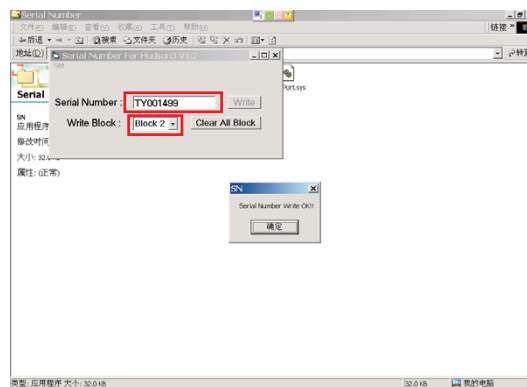

Fig.30
- 4. Set Block4 as shown in Fig.30
- 5. key in new serial number, then press "Write" button as shown in Fig.30, Click "WRITE" button.